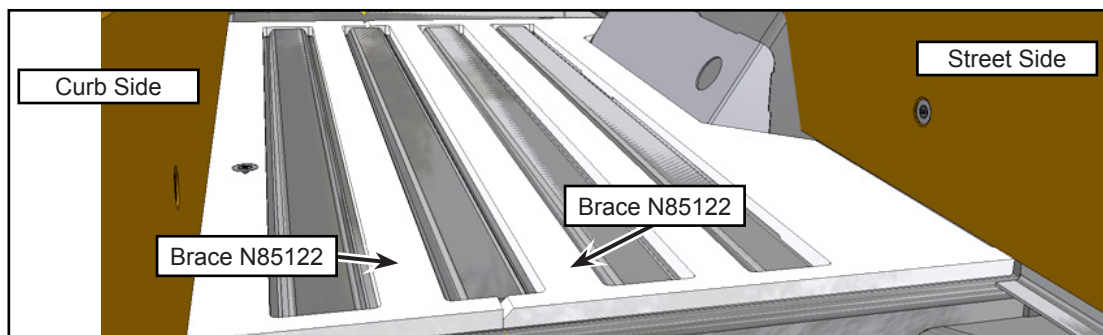

Figure 10 - Inspection of Brace Leg Length
- 2.29. Place brace N85124 on the floor structure, leaning on the curb side wall as shown (see Figure 10) and inspect the length of brace legs.